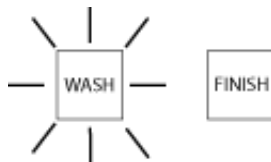

Fig.17
- 6- Wait until the end of the cycle when button "C" will stop blinking, open the door and download clean dishes basket. (Fig.17)